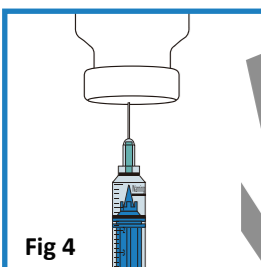

Fig 4
- Insert the needle into the medicine vial to draw medication into the barrel (Fig 4).